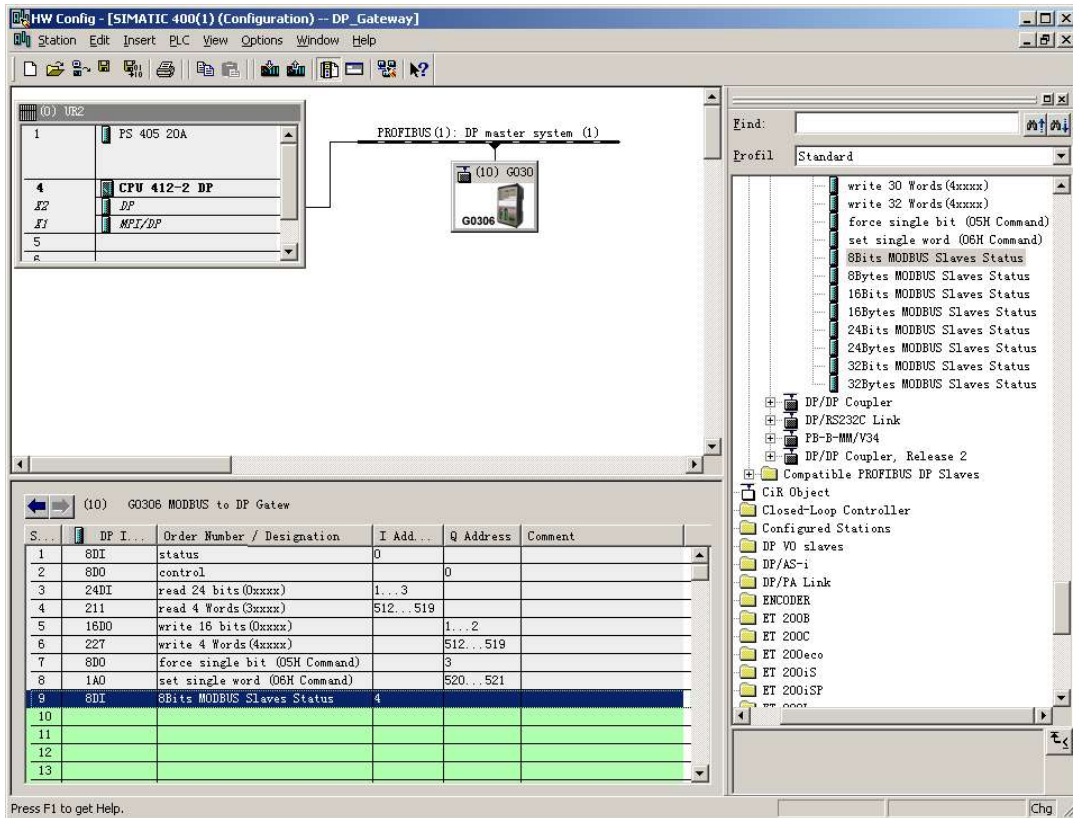

Figure 35 Add "8Bits MODBUS Slaves Status" module
b) Add "8Bits MODBUS Slaves Status" module, as shown in Figure 35: